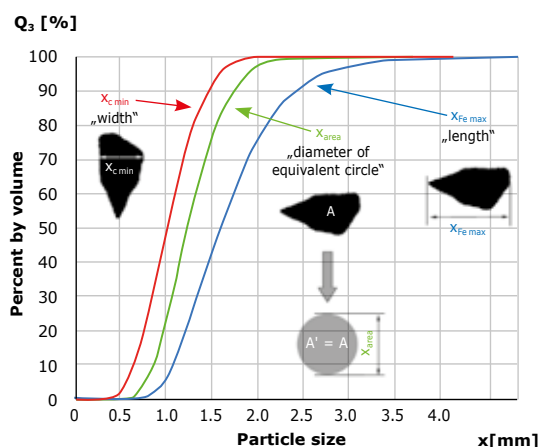

Fig. 1: Different size definitions of DIA
**Imaging methods offer the crucial advantage of using various size definitions, allowing for direct length and shape measurement.** Depending on the application, a variety of size parameters may be of interest. If, for example, elongated particles such as cellulose fibers, catalyst rods, plastic extrudates or rice grains are analyzed, the length of the particles is the relevant parameter. If, however, the sample needs to be compared to a sieve analysis, the focus is on particle width as the particles' orientation allows them to pass the sieve apertures with their smallest projection area. In DIA particle size distributions are based on different size definitions. The parameter  $x_{c \min}$  defines the particle width,  $x_{Fe \max}$  describes the length. Consequently, the  $x_{Fe \max}$  result is bigger than  $x_{c \min}$ . The size definition  $x_{area}$  is based on the calculation of a circle with equivalent surface from each particle (see fig. 1, green curve).